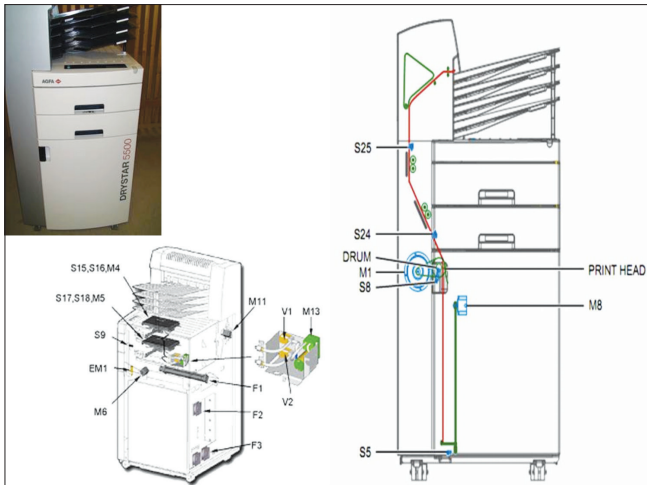

**Figure 4:** The laser optical system. 1: Laser, 2: lens, 3: laser modulator, 4: polygonal mirror, 5: toroidal lens, 6: mirrors, 7: film transport, 8: rollers
**c. Dry laser camera technology:** It is a two-step process involving a laser diode optic system and photothermography [Figure 4]. The creation of a latent image using either optics or heat is followed by its conversion to a true image by photothermography.[7] The latent image is initiated by a laser beam that releases